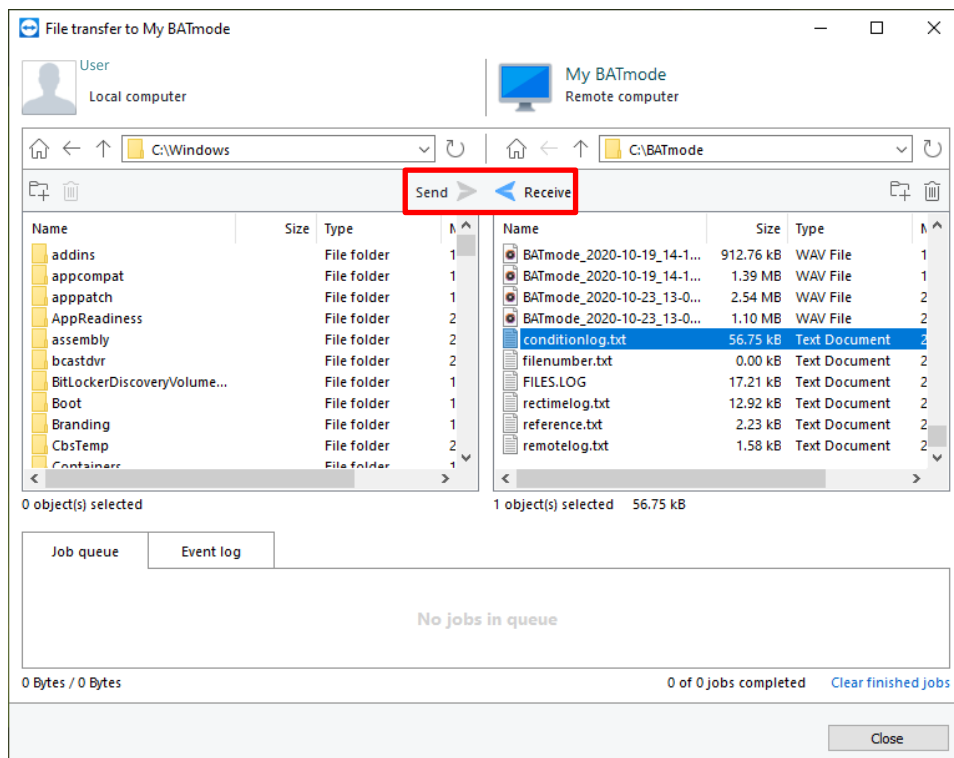

Figure 22: File transfer from your BATmode System
11. If you only want to transfer files (e.g. if the Internet connection is too slow for a graphical transfer), you can start the *file transfer* by activating the file transfer below the *Partner ID* in TeamViewer on your PC or laptop and clicking on *Connect*. You will then be asked for the password again (see Step 5) and the file transfer will start (see Figure 22: File transfer from your BATmode System).